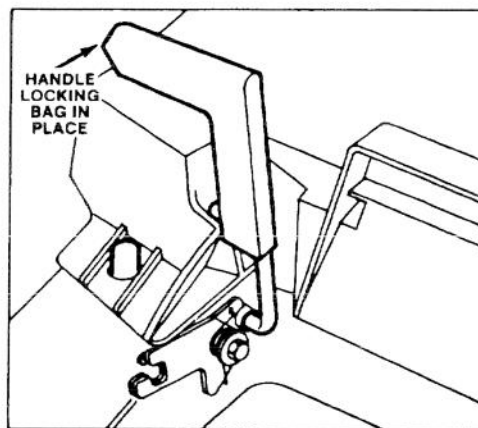

Figure 13
4. Pull chute door handle forward until pin clears bag catch and move handle rearward until pin locks in bag notch (Fig. 13). Chute door in mower housing is now open. It may be necessary to push down on top right of bag door to release handle locking pin from catch.